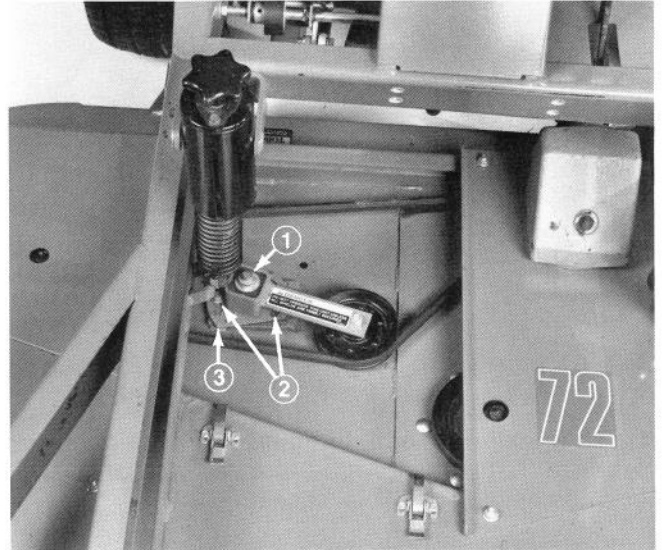

Figure 32
3. Loosen two nuts securing idler plate in place (Fig. 32). Using a socket and torque wrench, tighten the idler adjusting nut (Fig. 32) until proper torque value is achieved.
4. Hold the torque against the belt and tighten the two nuts so idler plate is held securely in place (Fig. 32). Release the idler adjusting nut, install cover, and secure latches.
3. Loosen two nuts securing idler plate in place (Fig. 32) and remove old belt from pulleys.
3. Loosen two nuts securing idler plate in place (Fig. 32). Belt tension will be released when nuts are loosened.